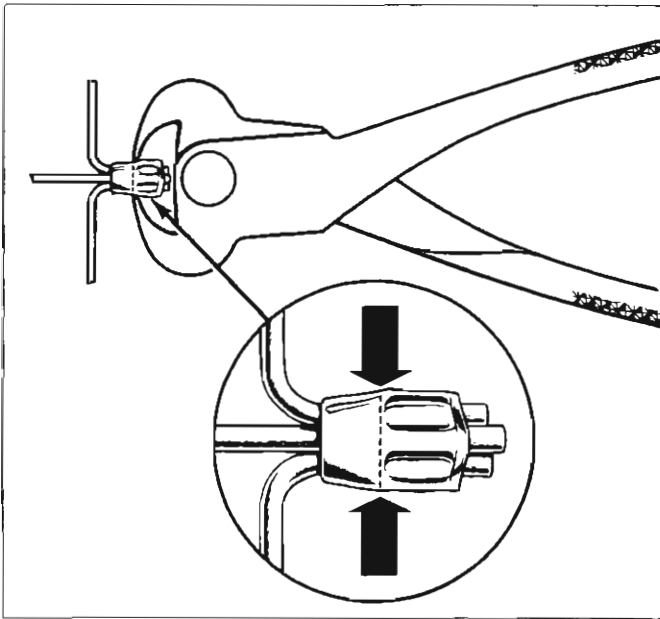

Fig. 23—Cutting Diode Connectors - 5.5" Delcotron
5. Separate stator assembly and end frame by first cutting three diode connectors just below the crimp mark (fig. 23) with end cutters on 5.5" aluminum Delcotron. If the connectors are full of solder melt the solder and then remove the connectors with pliers. Cut diode leads as close to the diode as possible on 6" perforated stator Delcotron. Separate stator frame from end frame.